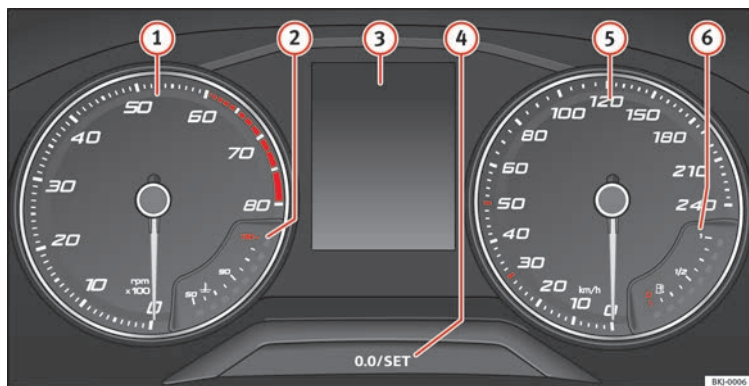

Fig. 121 Instrument panel, on dash panel.
The rev counter indicates the number of engine revolutions per minute » **Fig. 121 ①**.
We recommend that you avoid high revs and that you follow the recommendations on the gear-change indicator. Consult the additional information in » **Fig. 121 ②** page 40, Gear-change indicator.
Never allow the rev counter needle **①** » **Fig. 121** to go into the red zone on the scale for more than a very brief period, otherwise there is a risk of engine damage.
A variety of information can be viewed on the instrument panel display » **Fig. 121 ③** depending on the vehicle equipment:
- Bonnet, rear lid and doors open » **Fig. 121 ④** page 39.
- Shift lever position » **Fig. 121 ⑤** page 185.
- Recommended gear (manual gearbox) » **Fig. 121 ⑥** page 40.
- Multifunction display (MFD) and menus with different setting options » **Fig. 121 ⑦** page 36.
- Service interval display » **Fig. 121 ⑧** page 42.
- Second speed display » **Fig. 121 ⑨** page 36.
- Speed warning function » **Fig. 121 ⑩** page 41.
- Start-Stop system status display » **Fig. 121 ⑪** page 198.
- Briefly press the button » **Fig. 121 ④** to reset the trip recorder to 0.
- Keep the button **④** pressed for about 3 seconds and the previous value will be displayed.
- To set the time, keep the button » **Fig. 121 ④** pressed for more than 3 seconds to select the hour or minute display.
- To continue setting the time, press button **④**. Hold button down to scroll through the numbers quickly.
- Press the button **④** again in order to finish setting the time.
Hold the button » **Fig. 121**  down for more than 15 seconds to display the identifying letters of the vehicle engine (MKB). To do this, the ignition must be switched on and the engine switched off.
» **Fig. 121** only works when the ignition is switched on. In order to avoid engine damage, please read the following notes for the different temperature ranges.